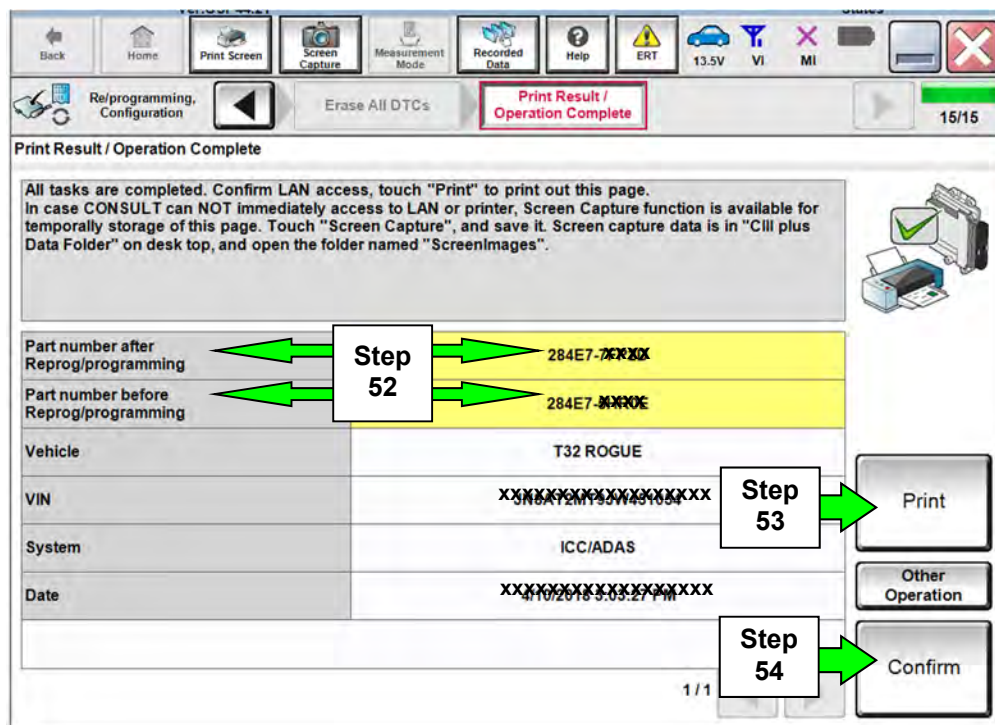

Figure 32
51. When the entire reprogramming process is complete, the screen in Figure 32 will display.
53. Print a copy of this screen (Figure 32) and attach it to the repair order for warranty documentation.